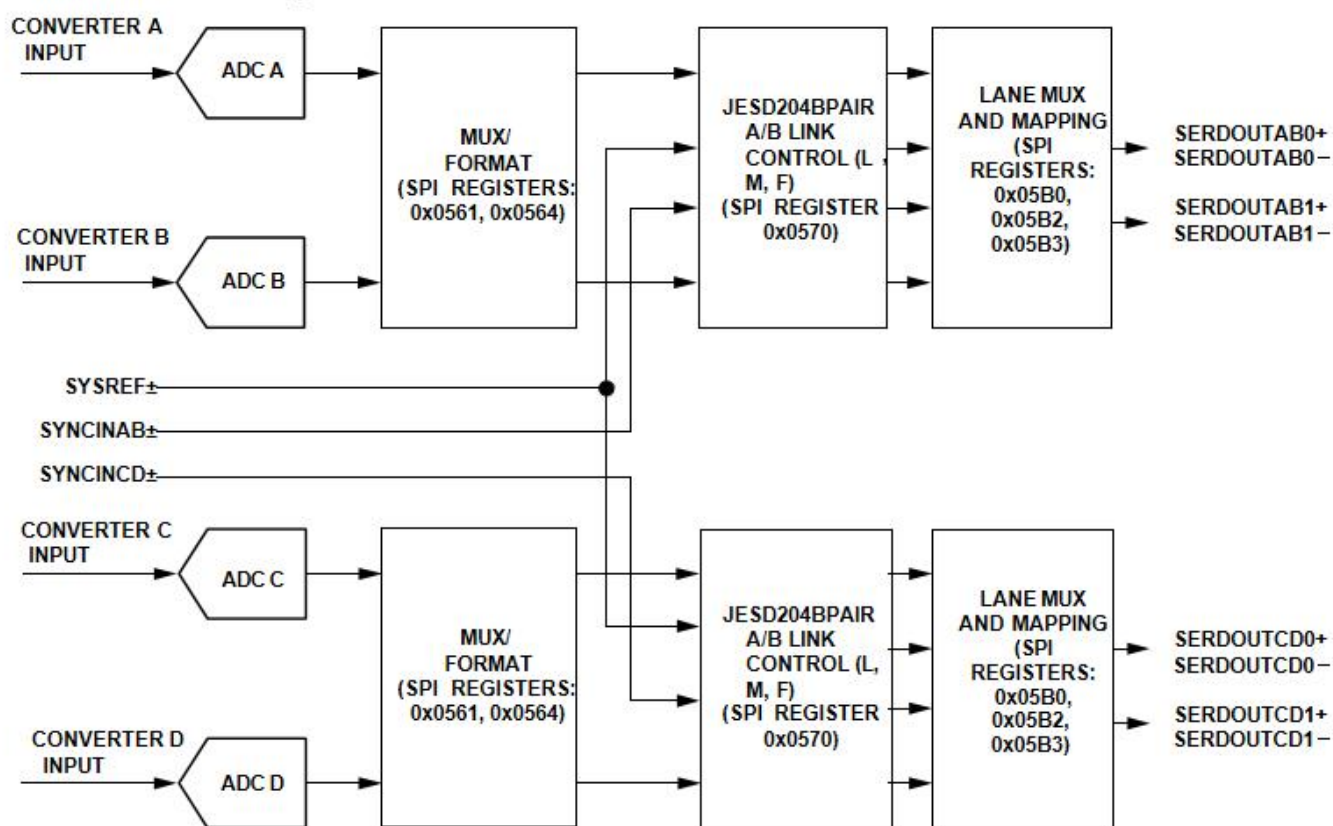

Figure 24 Simplified Block Diagram of the Transmit Link in Full Bandwidth Mode (0x200=0x00)
- CF is the control word count of a single converter within a single frame (CW9694 value = 0) Figure 24 shows a simplified block diagram of the CW9694 JESD204B link.